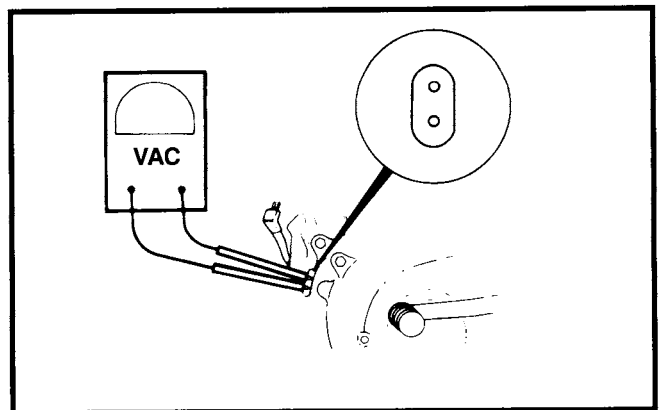

Figure 13. Check AC Output
1. See Figure 13. To test AC output, disconnect the regulator and connect an AC voltmeter across both stator sockets. Run the engine at 2000 rpm. The AC output should be between 32-40 AC volts (16-20 per 1000 rpm).